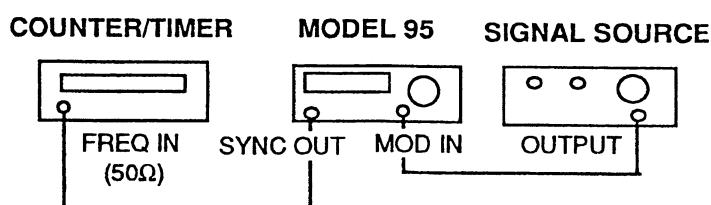

Figure 3-2. VCG/FM Setup
2. Connect the Model 95 and test equipment as shown in figure 3-2.